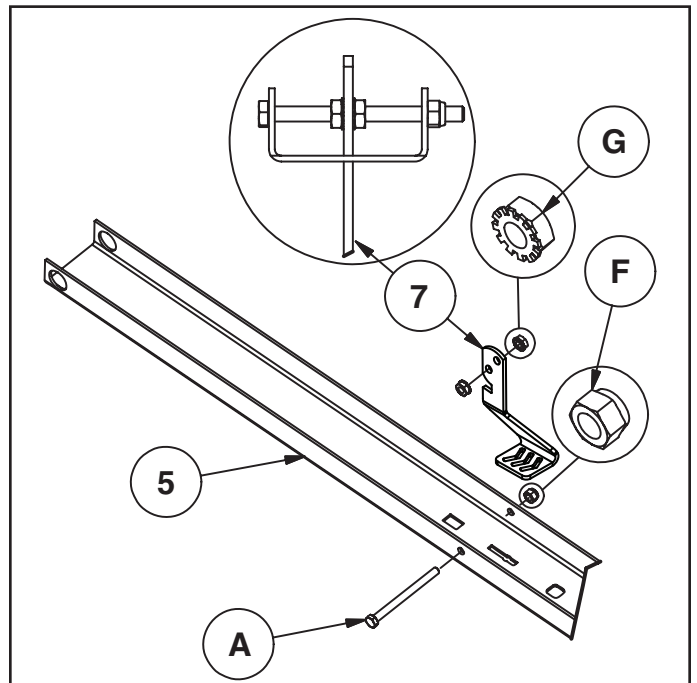

FIGURE 1
- (2) 9/16" Wrenches
STEP 1: (SEE FIGURE 1)
- Place the foot pedal latch (7) through the slot in the tongue (5). Assemble the hex bolt (A) through the tongue, the lever, and two (SEMS) hex nuts (G) placed on each side of the lever. Assemble the nylock nut (F) onto the end of the hex bolt (A) and tighten so that the hex bolt (A) can still rotate freely. Tighten the two (SEMS) hex nuts (G) against each side of the foot pedal latch (7) so that it is centered in the slot.